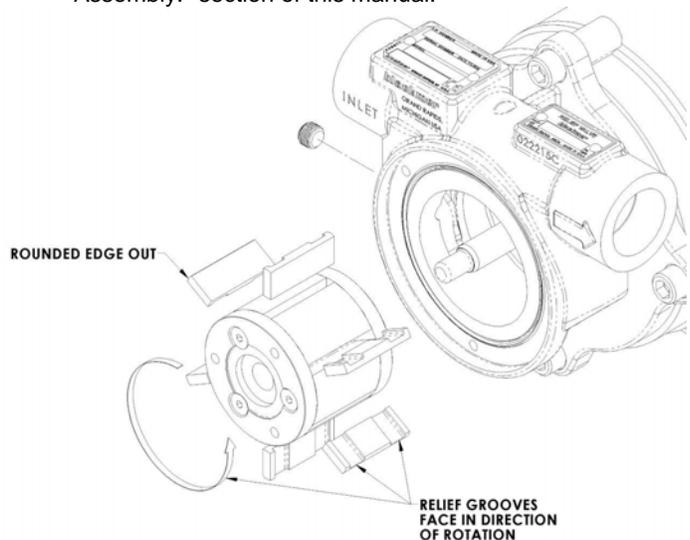

Figure 3 – Vane Replacement
4. Turn the shaft by hand until rotor capscrew (13A) can be accessed through port in side of cylinder (12).
5. Turn rotor capscrew (13A) counterclockwise approximately 1 full turn. Rotor/disc assembly (13) can be removed at this time by pulling firmly away from motor.
6. Remove and discard worn vanes (14),
7. Install new vanes, ensuring that the rounded edge is UP, and the relief grooves are facing towards the direction of rotation. See Figure 3. Vanes (14) should move freely within slots in rotor/disc assembly (13).